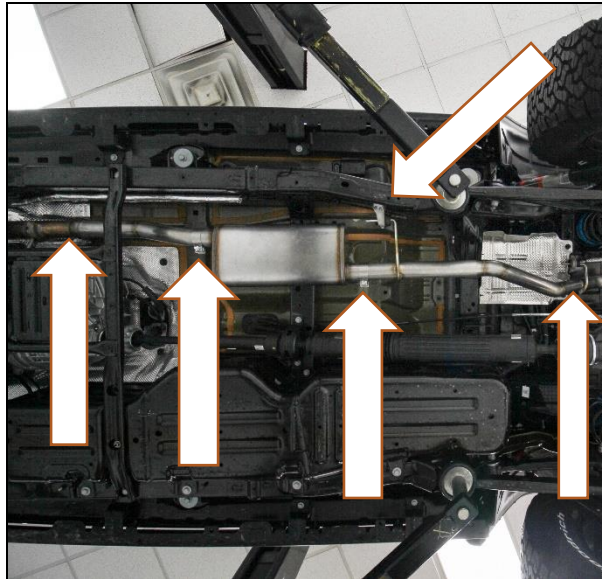

Figure 1
1. Reuse the OE band clamp. Install the Blackheart front pipe on to the OE pipe. Install (x1) supplied band clamp and install the Blackheart muffler. Now, slide on the other (x1) supplied band clamp and install the BH mid pipe slide hangers into OE rubber isolator (**Figure 1**).